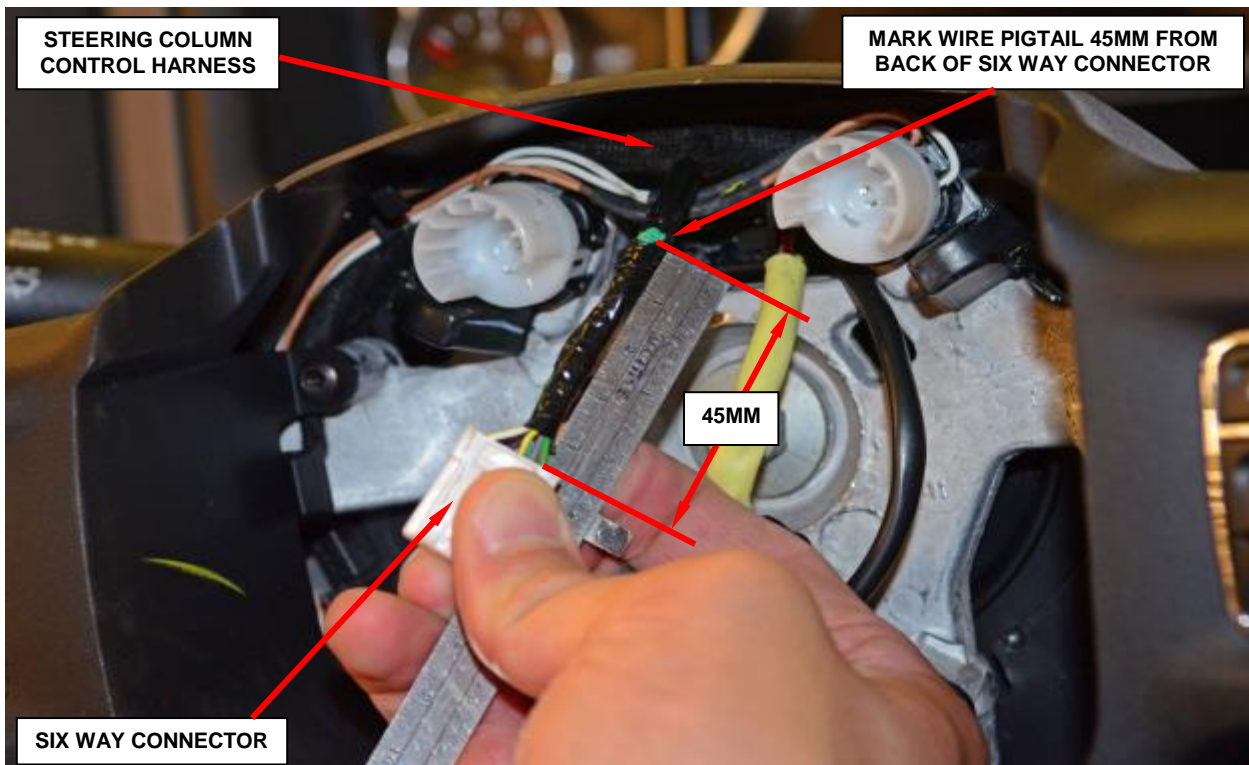

Figure 6 – Mark Wire Harness for Reference
14. Measure 45mm from the back of the six way connector and mark the wire pigtail for reference in step 15 (Figure 6).